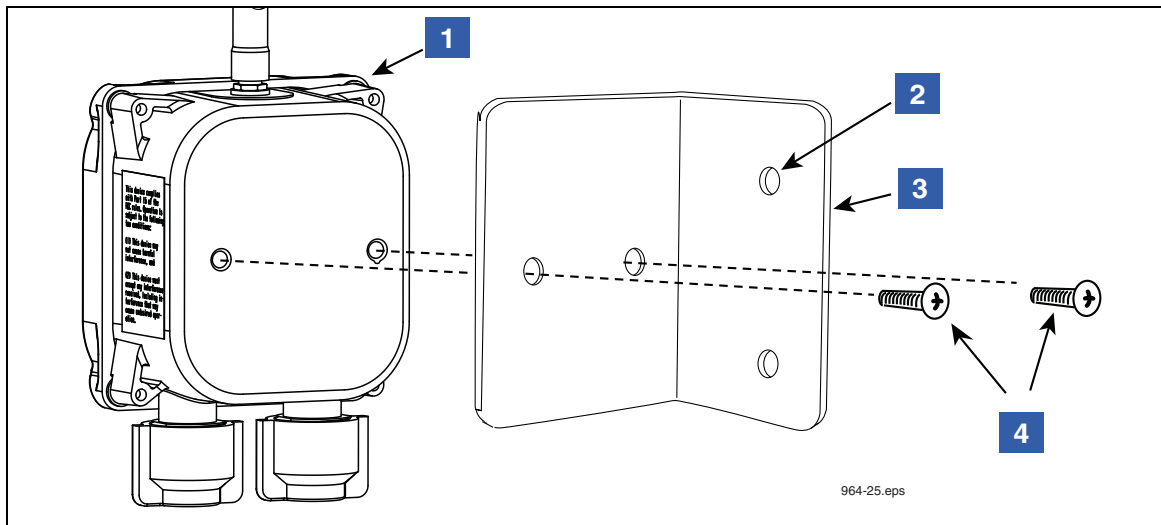

Figure 31. Attaching Mounting Bracket To Receiver Or Repeater
1. One Receiver is required per site and it is mounted in the vertical position (antenna up) on the outer wall of the same building housing the TLS RF. The Receiver is attached to its mounting bracket with #10 x 1/2" taptite screws from its install kit (see Figure 31). The L-bracket is then mounted on the outer wall of the building using appropriate fasteners (customer supplied). If the Receiver will be exposed to the weather, attach the L-bracket to the mounting surface inside a weatherproof enclosure. This enclosure is not required when mounting the Receiver under a roof overhang and shielded from the weather.
LEGEND FOR NUMBERED BOXES IN Figure 31
2. The Repeater is attached to its mounting bracket with #10 x 1/2" taptite screws from its install kit (ref. Figure 31 on page 41). The L-bracket is then attached to the outer wall of the building using appropriate fasteners (customer supplied). If the Repeater will be exposed to the weather, attach the L-bracket to the mounting surface inside a weatherproof enclosure. This enclosure is not required when mounting the Repeater under a roof overhang and shielded from the weather.